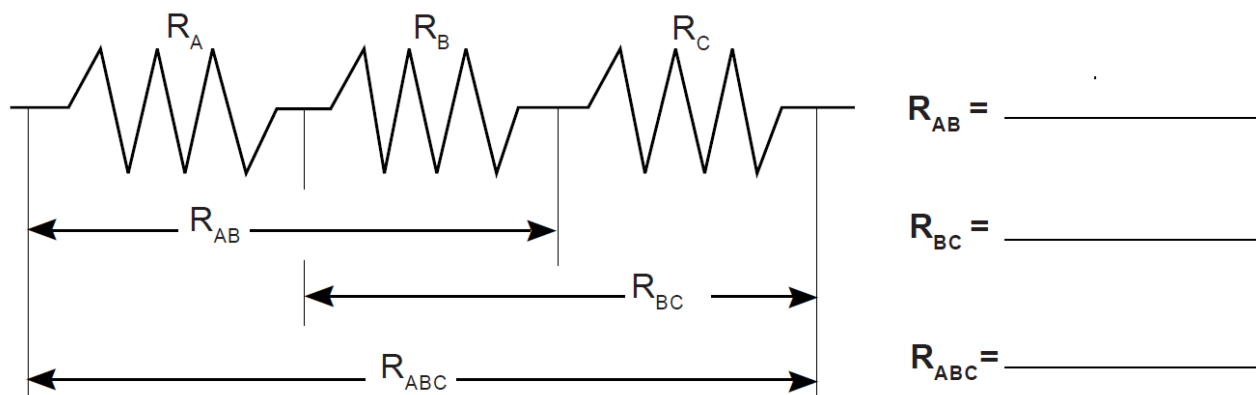

Figure 4.4: Series Circuit
8. Choose three resistors with *different values* from each other. Repeat steps 1 through 7 as above, recording your data in Table 4.2 and Figures 4.4 through 4.6. Note that we have called these resistors A, B, and C.